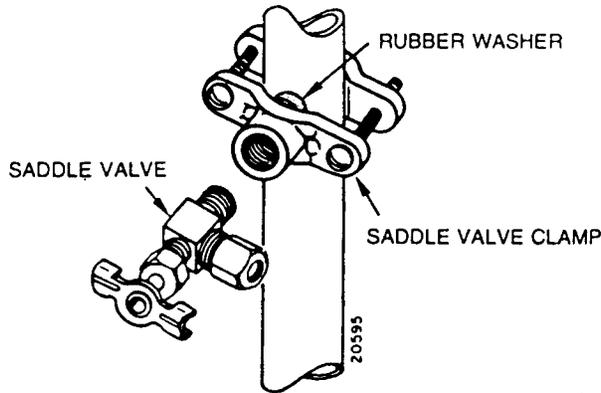

Figure 16 Installing saddle valve
5. Assemble the two parts of the valve clamp around the water pipe, making sure the hollow core enters the 1/4" hole in the pipe. Tighten both screws evenly to compress the washer enough to make a water tight seal (see figure 16).